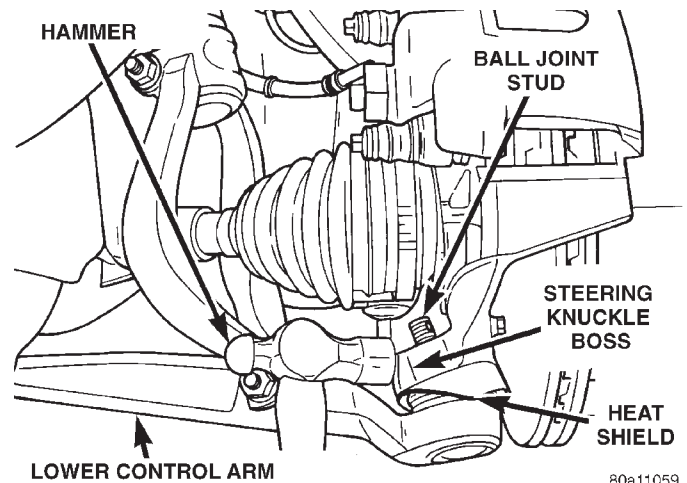

Fig. 31 Separating Lower Ball Joint Stud From Steering Knuckle
(6) Turn steering knuckle so the front of the steering knuckle is facing as far outboard in the wheel opening as possible (Fig. 31). Using a hammer, strike steering knuckle boss (Fig. 31) until steering knuckle separates from the lower ball joint. **When striking steering knuckle care MUST be taken not to hit lower control arm or ball joint grease seal.**